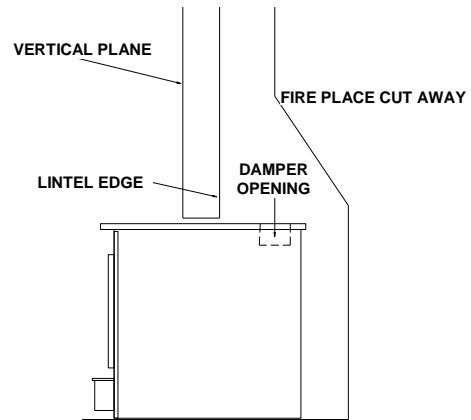

FIGURE 2 POSITIONING
(See Figure 2).
1. The front of damper opening must be positioned **BEHIND** back edge of the lintel to ensure proper draft. (See Figure 2).